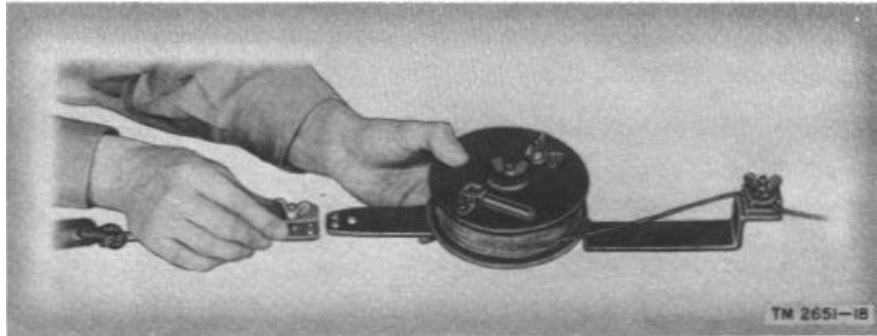
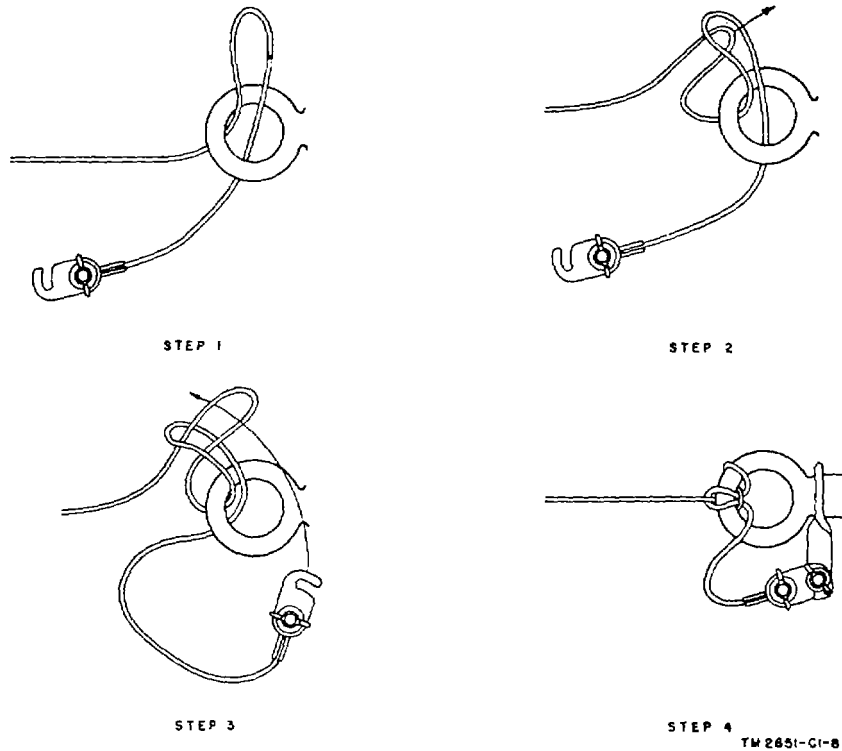

Figure 19. Attaching halyard to reel.
Figure 25. Details of tying wire to insulator.
- (i) Attach the insulator end of the other halyard to the reel (fig. 19).
- (g) Fasten the remaining halyard insulator to the reel (fig. 19).
- (g) Fasten the first and second reels to the insulator end of the respective mast halyards (fig. 19).
- (4) Attach the halyard of the center mast to the cable assembly by means of one hook assembly as shown in figure 25
- (5) Unwind and measure each antenna wire to a length slightly less than one-half the value obtained from table II.
- (6) Check the overall length of the two wires plus the connector. Adjust it if necessary; be sure to keep the connectors and the RF cable assembly centered by raising halyard of the center mast first.
- (7) Attach each reel to the insulator of the respective mast halyard (fig. 19).
- (8) Raise the antenna by pulling the free end of each halyard. Secure each halyard.